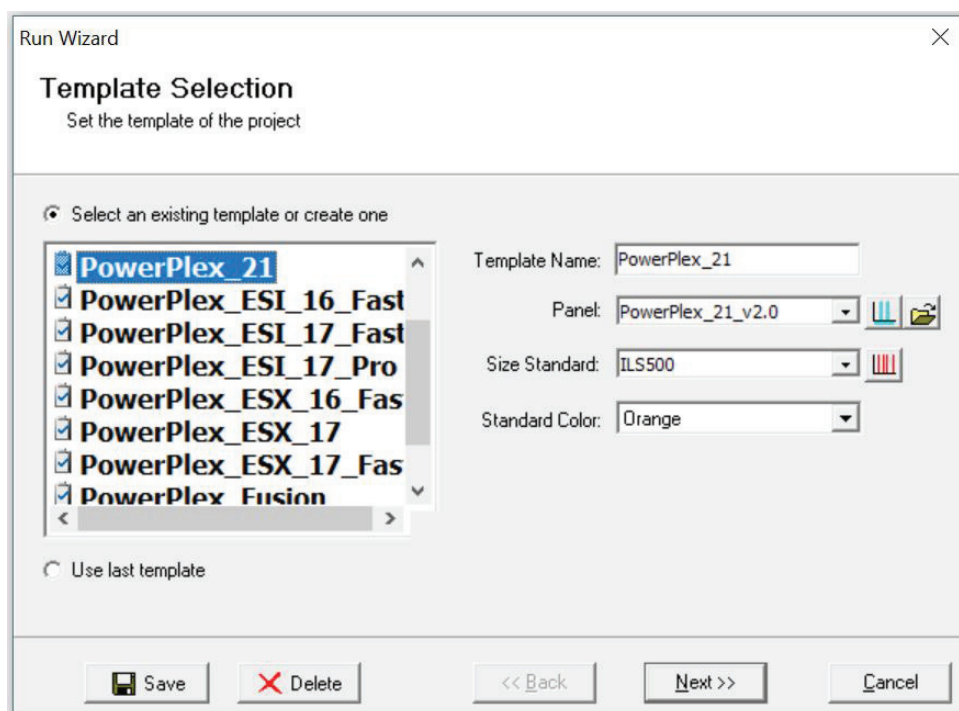

Figure 28. The 'Template Selection' window.
8. Select **Run** in the Magic Wizard or choose the **Run Project** icon (green arrow) in the toolbar. The 'Template Selection' screen will appear (Figure 28). Select the PowerPlex_21 template and the settings shown in Figure 28. Verify that the panel you created in Step 6 is selected in the panel drop-down field. The Size Standard must be ILS500 and the Standard Color must be Orange. Select **Next**.